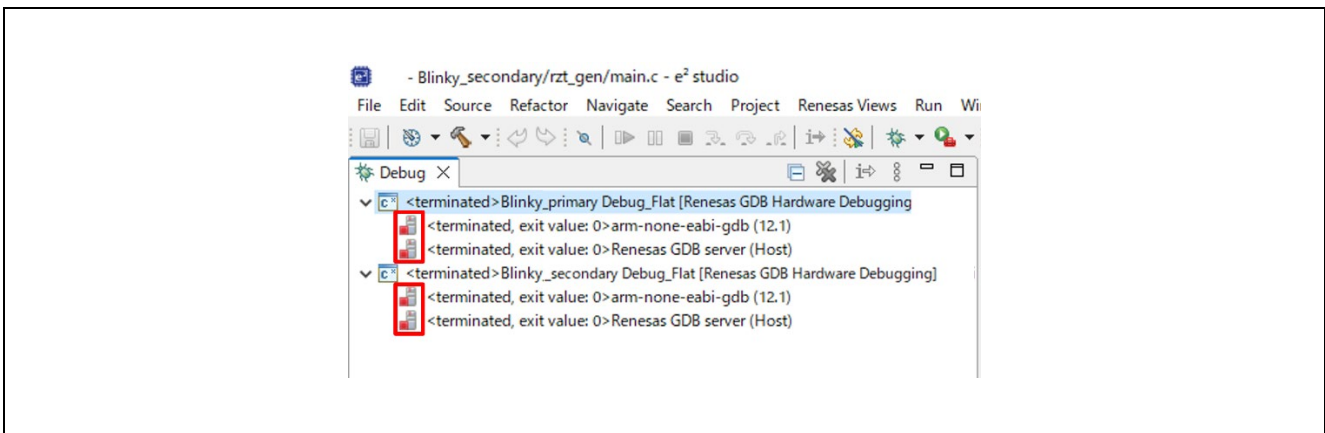

**Figure 87. Warning Window of Device Name**
4. When Figure 87 is shown, please click **Yes** to proceed with the launch.